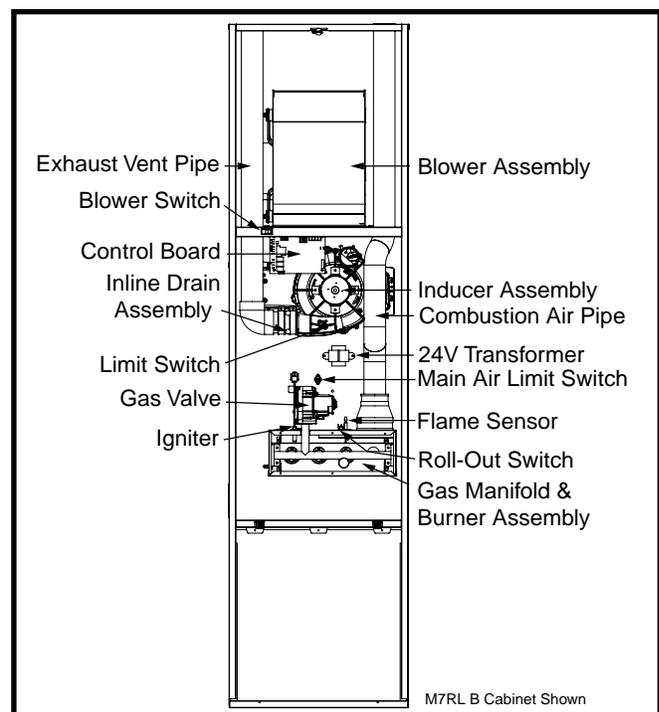

Figure 23. Furnace Components
If the burners must be cleaned, follow steps 1-12. See Figure 23 (page 29) for component location.
- If the inducer blower is operating, and items above have been verified, check the blower limit switch and reset if necessary. See Figure 23 for component location.
The descriptions below are various functional components that affect the operation and shutting down of this furnace. Some of these components and their locations are shown in Figure 23. If any component of the furnace must be replaced, use only factory authorized replacement parts specified in the Replacement Parts List provided online.